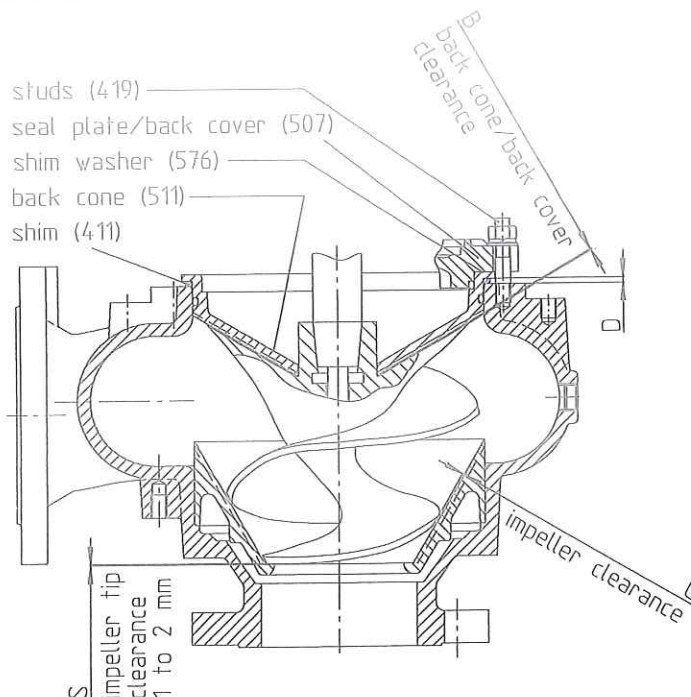

Fig. 3
Determining thickness of shims (411) (Fig.3):
With correctly adjusted impeller - clearance 'C' (Table 2), clearance between impeller-tip and wear ring (408), liner (421) or suction cover (402) has to be at least the minimum of 1 mm (fig. 3). In case, that this clearance is too small, grind off the impeller tip, parallel to suction flange, until approx. 1 to 2 mm clearance is achieved.